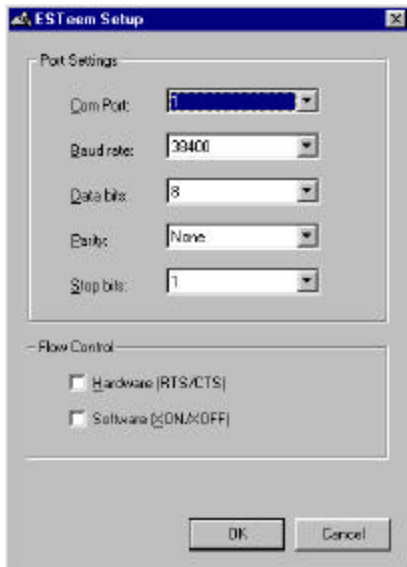

Figure 3: Serial Port Configuration Menu
3. Once the Terminal Emulation is loaded, select the Terminal Setup from the menu and press Ports. You should see the serial port configuration menu (Figure 3).